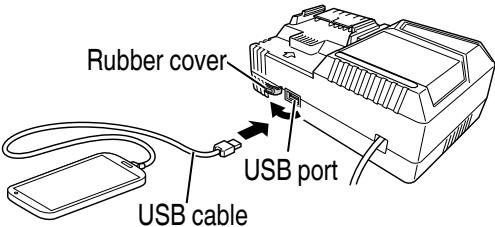

Fig. 8
(2) Connect the USB cable. **(Fig. 8)**